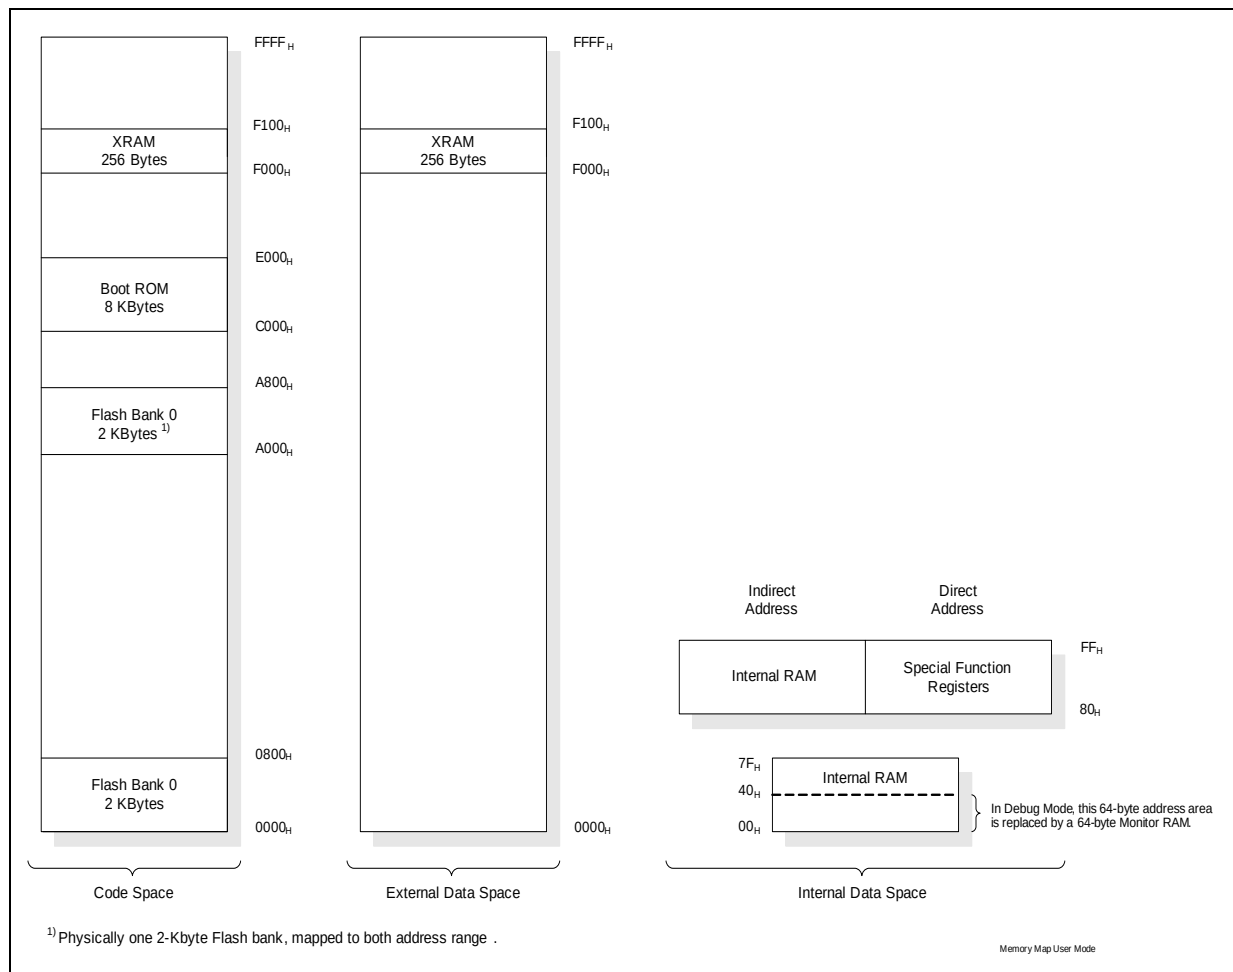
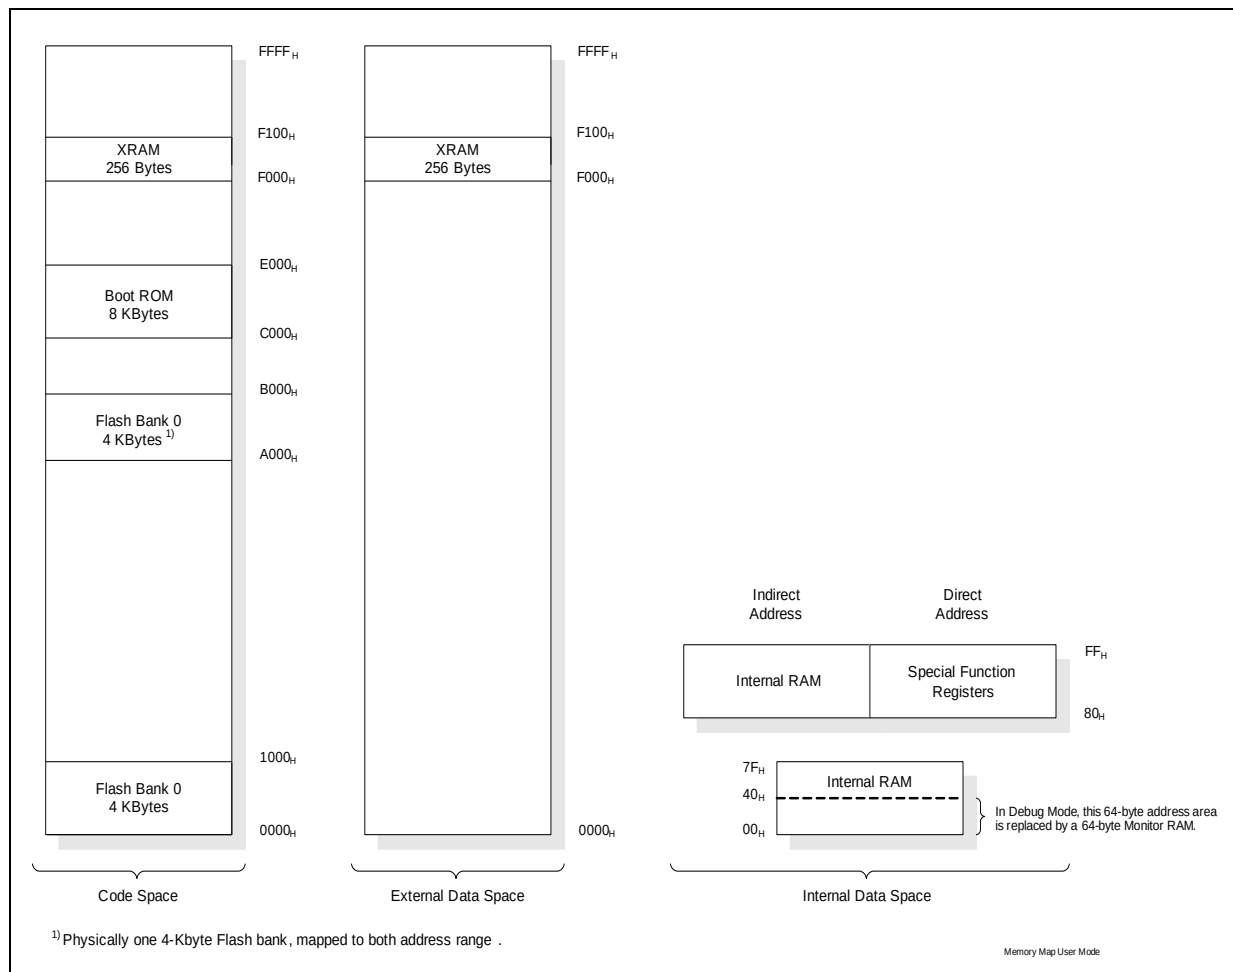
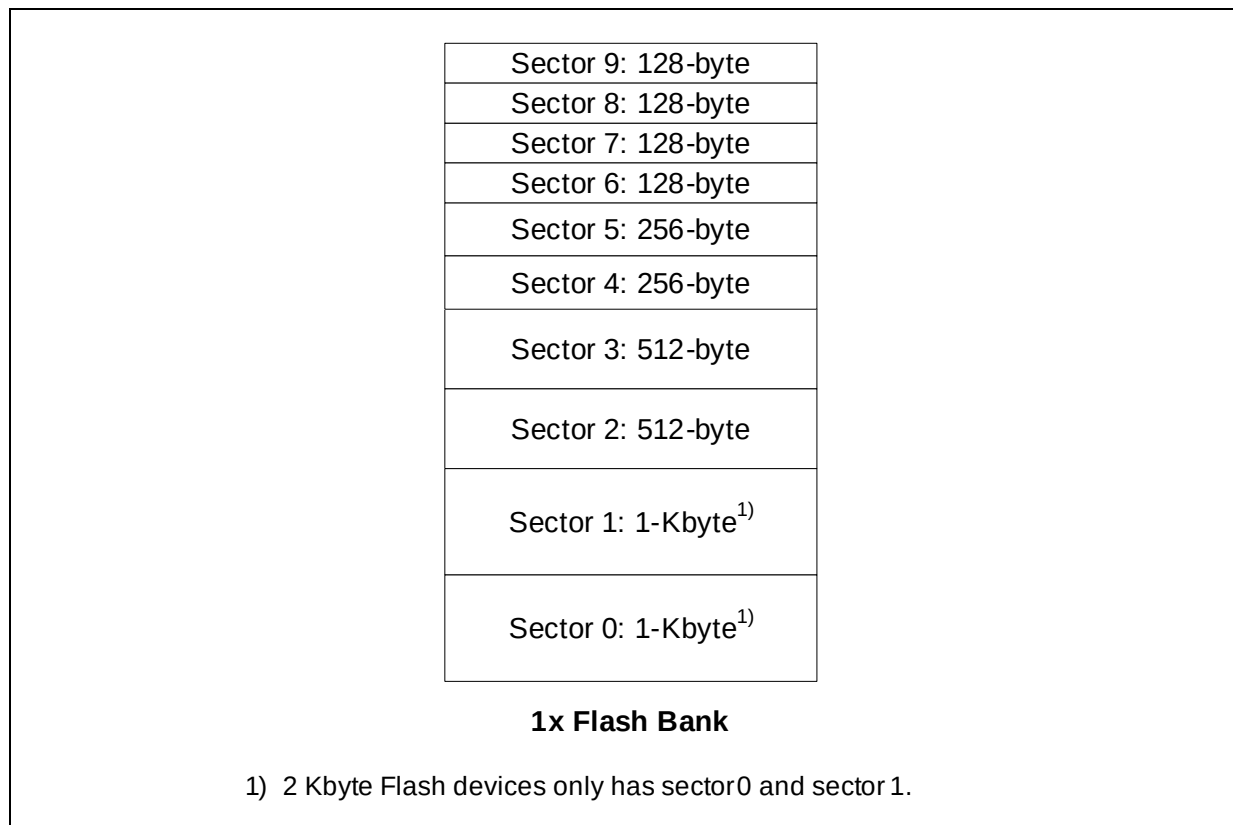

**Figure 6** Memory Map of XC822/824 with 2 Kbytes of Flash memory
**Figure 7** Memory Map of XC822/824 with 4 Kbytes of Flash memory
**Figure 8 Flash Bank Sectorization**
**Figure 6** illustrates the memory address spaces of the 2 Kbyte Flash devices. There are two 1-Kbyte sectors in this device. **Figure 7** illustrates the memory address spaces of the 4 Kbyte Flash devices. This device has two 1-Kbyte sectors, two 512-byte sectors, two 256-byte sectors and four 128-byte sectors. **Figure 8** shows the Flash sectorization for 2 Kbyte and 4 Kbyte Flash devices.